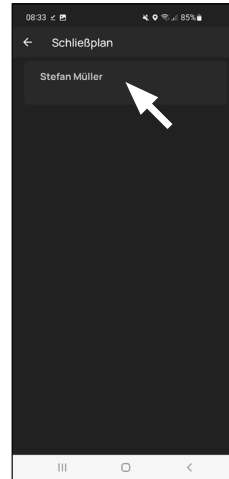

Fig. 2
- 3 Tap on your user name or on the first user if you have created more than one. (Fig. 2).